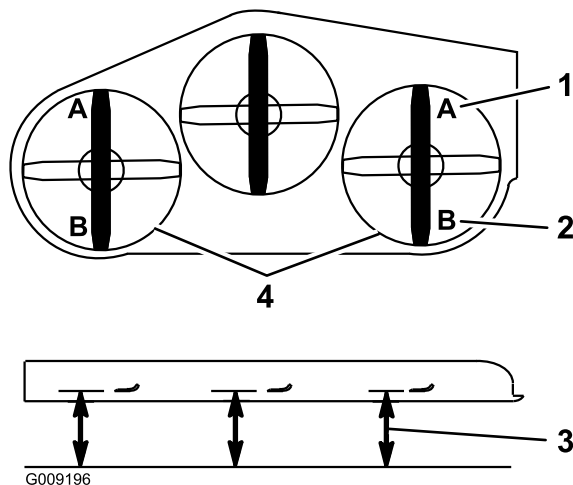

Figure 115
9. On both sides of the deck, measure from the level surface to the front tip of the blade (Position A) as shown in Figure 115.
15. On both sides of the deck, measure from the level surface to the back tip of the blade (position B) as shown in Figure 115.